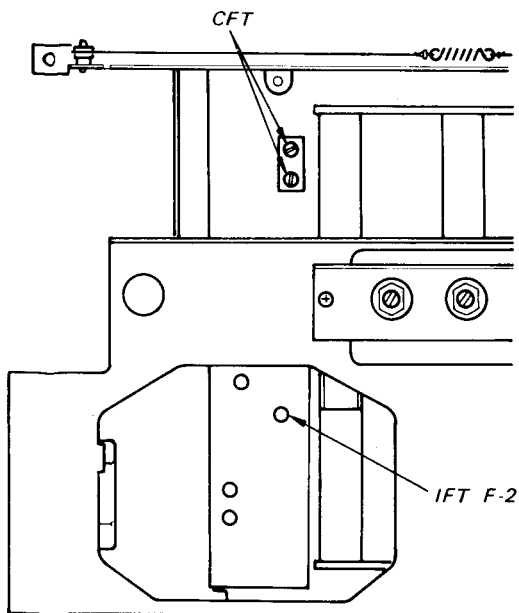
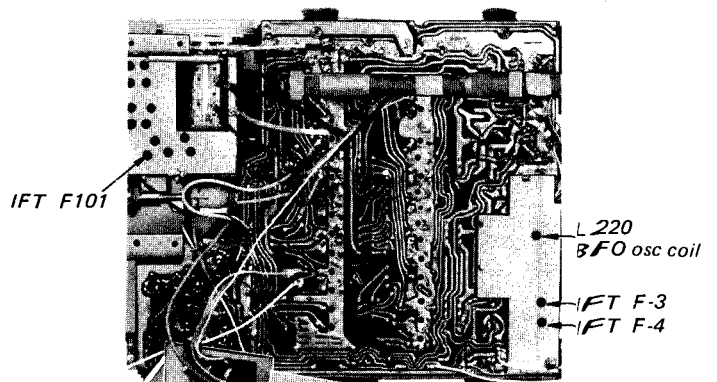

Fig. 3-4. Adjustment locations
Fig. 3-6. Adjustment locations
| 10.7 MHz | 400 Hz, 30% AM modulation | IFT F-4 See Fig. 3-6. | Adjust for minimum meter reading ^(*1) . |
| 10.7 MHz | 400 Hz, ±22.5 kHz FM modulation | IFT F-1 IFT F-2 ^(*2) IFT F-3 See Fig. 3-4 and Fig. 3-6. | Set the tuning knob at the best signal position. Adjust for maximum meter reading. |
*2. IFT F-2 is unable to adjust from rear part of the set. Remove the front panel and adjust IFT F-2 from front part. (See Fig. 3-4).
Modulate the rf signal with 400 Hz AM modulation. Vary the rf signal around 455 kHz to find i-f frequency of the set. The dial of the rf signal generator shows i-f frequency of the set when the output power of the speaker becomes maximum. If the peak of the output power is not found around 455 kHz, adjust the ceramic filter cores after removing front panel and dial drum as shown in Fig. 3-4.
| 455 kHz unmodulated signal (*) | BFO osc coil L220 See Fig. 3-6. | Adjust for zero beating. |